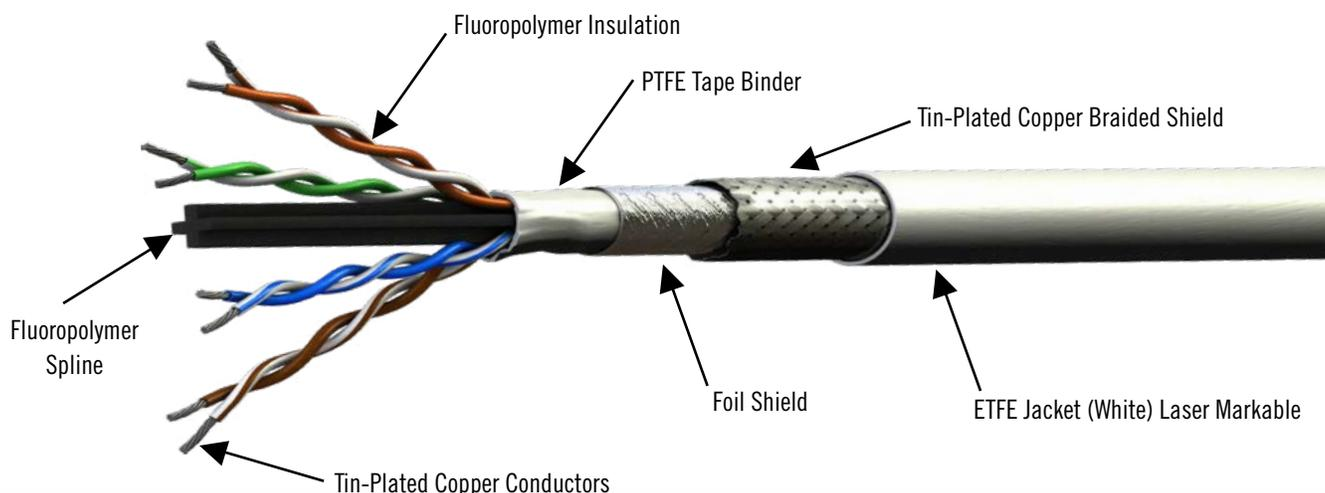

Figure 1: 10G Base-T Cat 6a Ethernet Cable (E6A2824)
As engineers know all too well, a cable is much more than a convenient way of connecting two electronic devices: it is also a complex passive circuit with its own resistance, capacitance and inductance. A typical cable in a demanding aerospace or military application, such as the 10G Base-T Cat 6a Ethernet cable shown in Figure 1, contains multiple parts.
As depicted in Figure 1, kinks or stray wires in the primary conductors can cause issues such as out of spec outer diameter (OD), electrical issues like or high attenuation or return loss. A strand poking through the wire insulation can also cause a spark test failure.